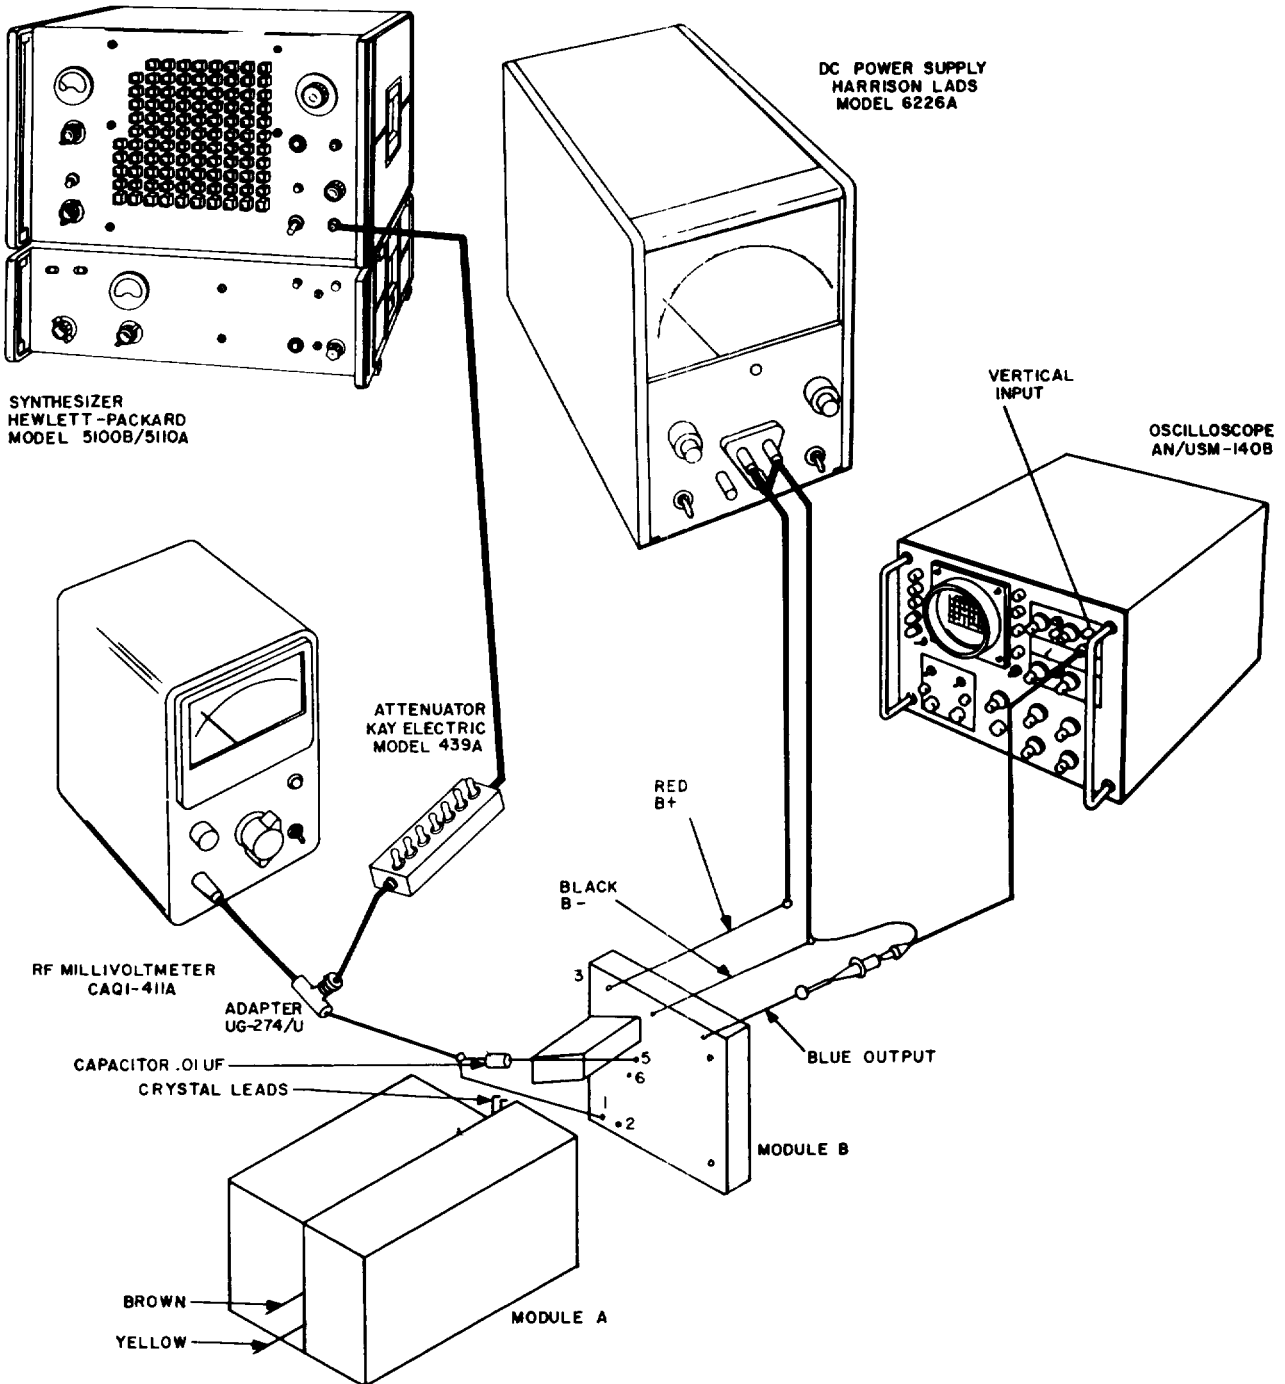

Figure 5-34. 1-MC Oscillator A3Y1 Trouble Shooting, Test Setup, (Electronic Research Co.)
(2) Replacing Module A - When test data indicates that replacement of module A is necessary the drive resistor and correlation capacitor in module B must also be changed. The drive resistor is located between points 1 and 2 on module B (see figure 5-34). The correlation capacitor may consist of one or two capacitors located between points 3 and 4 in module B (see figure 5-34). Remove and discard the drive resistor and corre-
(3) Replacing Module B - When test data indicates that replacement of module B is necessary the drive resistor and correlation capacitors must be removed from the defective module, these or components of the same value and type must be installed in the new replacement module B. Module B is supplied without the drive resistor or correlation capacitors. The drive resistor is located between points 1 and 2 in module B (see figure 5-34). The correlation capacitor may be one or two capacitors located between points 3 and 4 on module B (see figure 5-34). After installation of these components, reassemble the oscillator.